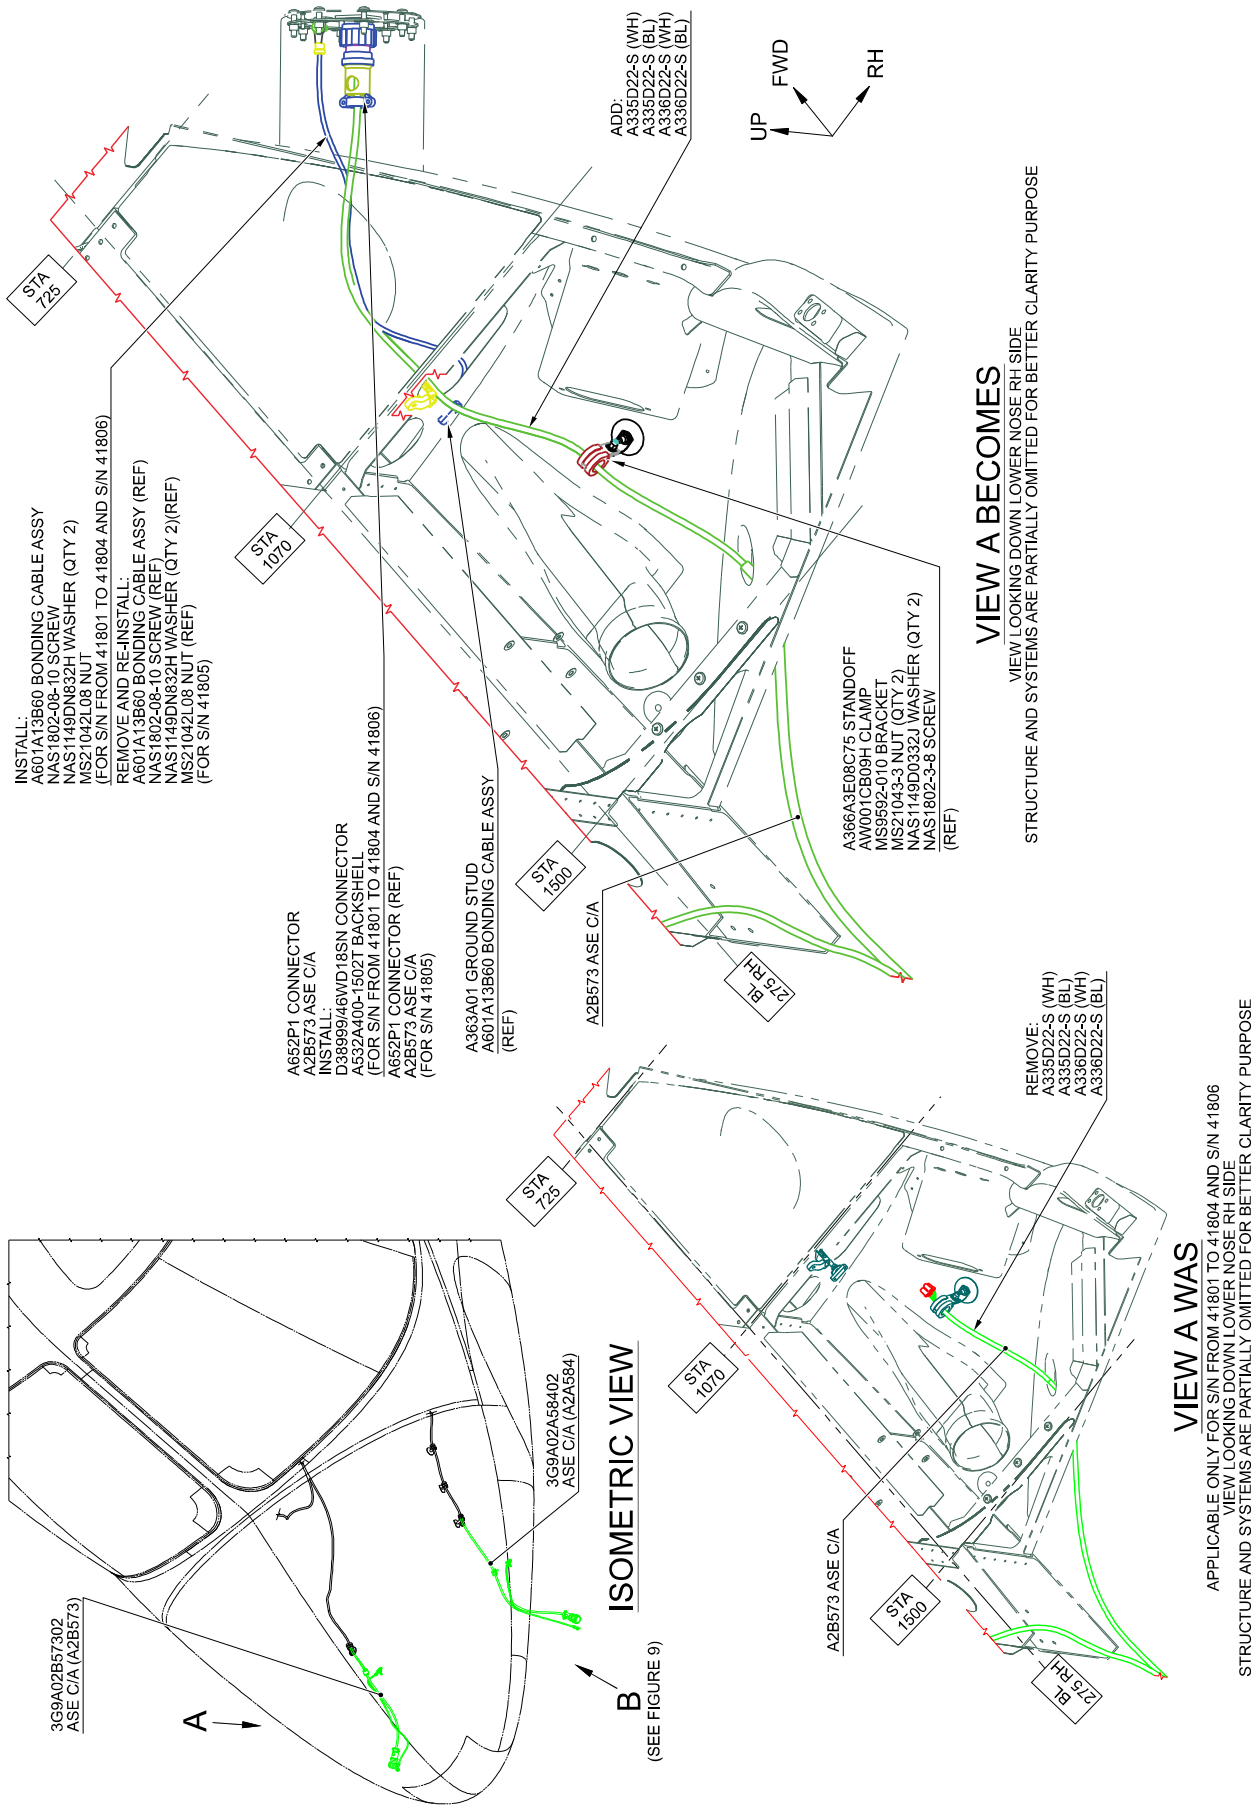

Figure 8
15. With reference to Figures 8, 9 and 12, perform the upgrade of the ASE electrical C/A instl
15.6 With reference to Figures 8 and 12, modify the ASE C/A A2B573 as described in the following procedure:
15.6.1 With reference to Figure 8 View A Becomes and Figure 12 Wiring Diagram, assemble the connector A652P1 by means of the electrical connector P/N D38999/46WD18SN and the backshell P/N A532A400-1502T.
15.6.2 With reference to Figure 8 View A Was and Figure 12 Wiring Diagram, remove the wires marked as A335D22-S (WH and BL).
- 15.6.3 With reference to Figure 8 View A Was and Figure 12 Wiring Diagram, remove the wires marked as A336D22-S (WH and BL).
- 15.6.6 In accordance with AMP DM 39-A-20-10-18-00A-691A-A and with reference to Figure 8 View A Becomes and Figure 12 Wiring diagram, mark wire as A335D22-S (WH and BL) by means of marker sleeve or laser marking.
- 15.6.10 In accordance with AMP DM 39-A-20-10-18-00A-691A-A and with reference to Figure 8 View A Becomes and Figure 12 Wiring diagram, mark wire as A336D22-S (WH and BL) by means of marker sleeve or laser marking.
- 15.7 With reference to Figure 8, secure the wires laid down at the previous step by means of existing hardware and lacing cords.
- 15.9 With reference to Figure 8 View A Becomes, reconnect the bonding cable assy P/N A601A13B60 by means of the screw P/N NAS1802-08-10, the nut P/N MS21042L08 and n°2 washers P/N NAS1149DN832H.